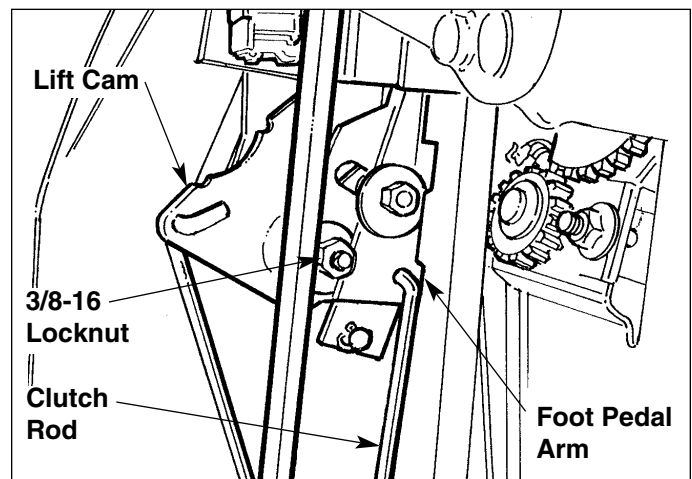

Figure C-6. Hydro Foot Pedal Assembly - Typical
3. Note the position of the lift cam and foot pedal arms (Figure C-6), and slide the brake pedal arm out of the unit, catching the washers positioned under the lock nut as the brake pedal assembly arm is removed. (The lift cam, foot pedal arm, parking brake cam, switch actuator, and clutch rod may be left in place, partially assembled.)
The clutch rod extends from the foot pedal arm through the slot in the guide rod/brake rod assembly, to the idler arm assembly, and is held in place at both ends by cotter pins. (See Figures C-6 & C-9)
5. Inspect the idler arm assembly for wear, cracked pulleys, or other damage, and replace parts as required. Refer to Figure C-6 for proper assembly position.